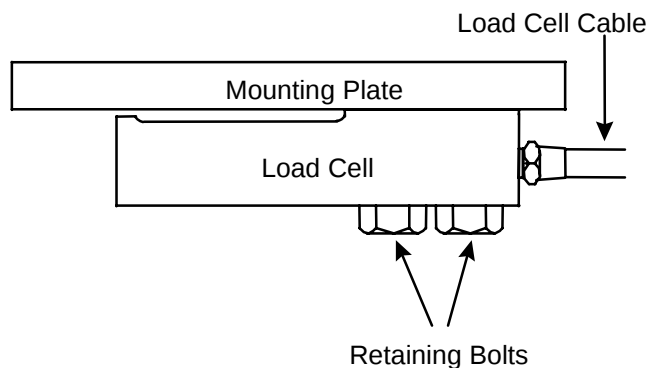

Figure 4-3: Load Cell in HD Scale Base
6. Remove the retaining bolts that mount the load cell to the plate on the top half of the base (see Figure 4-3). You should now be able to remove the load cell.